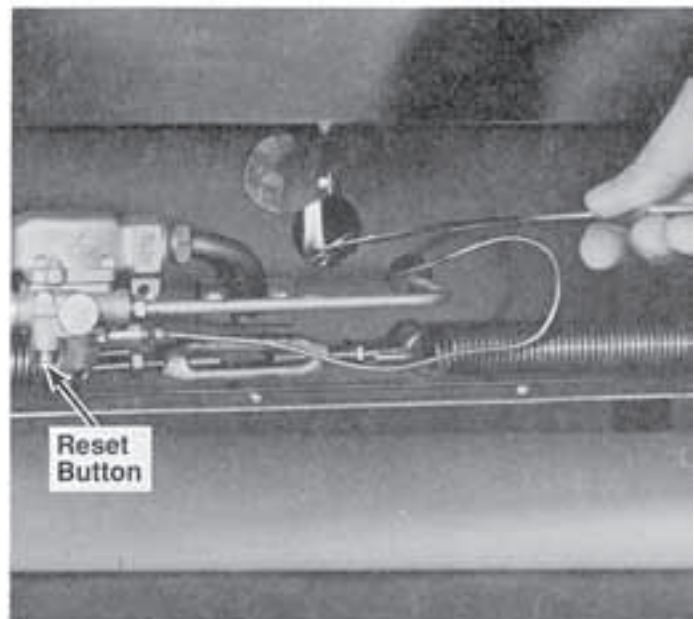

Fig. 2
2. Depress the reset button located behind the lower front panel and light with a lit taper (Fig. 2). Continue to hold reset button for 1 minute.